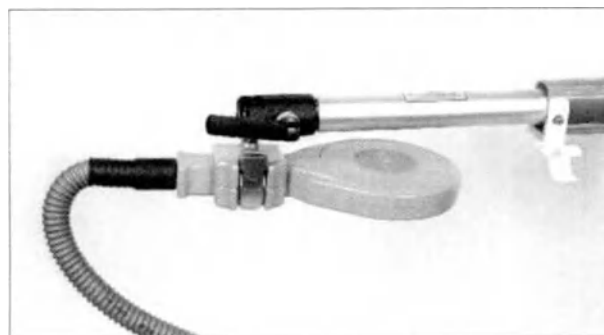

Figure 11. Deflected transducer
- If the transducer hose is deflected as shown in Figure 11, the hose may break or be damaged. When positioning the transducer, make sure that the hose is not bent.